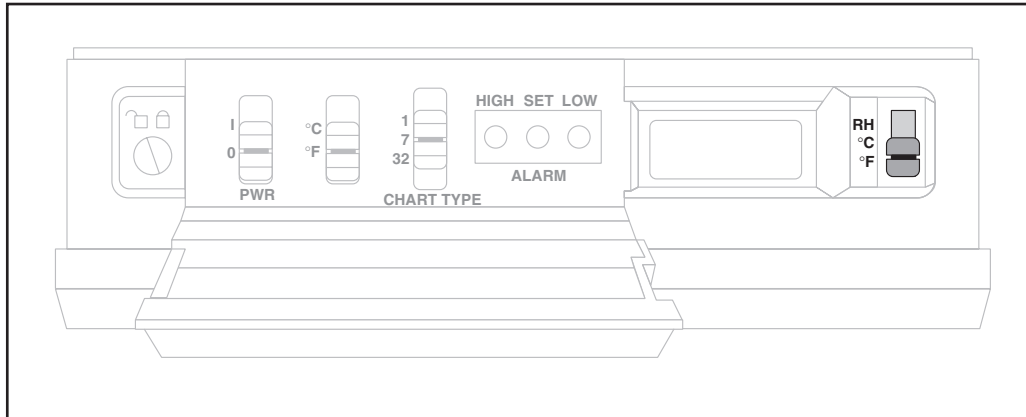

Figure 3-8. Display Selector Switch
After the relative humidity and temperature codes appear, the LCD displays the current relative humidity in %RH or temperature in °F or °C, depending on the position of the display selection switch (refer to Figure 3-8).
1. Set the display selection switch (Figure 1-1, item #12) to %RH, °C, or °F depending on the parameter for which you would like to set the alarm limits. Refer to Figure 3-8 for the location of the switch.